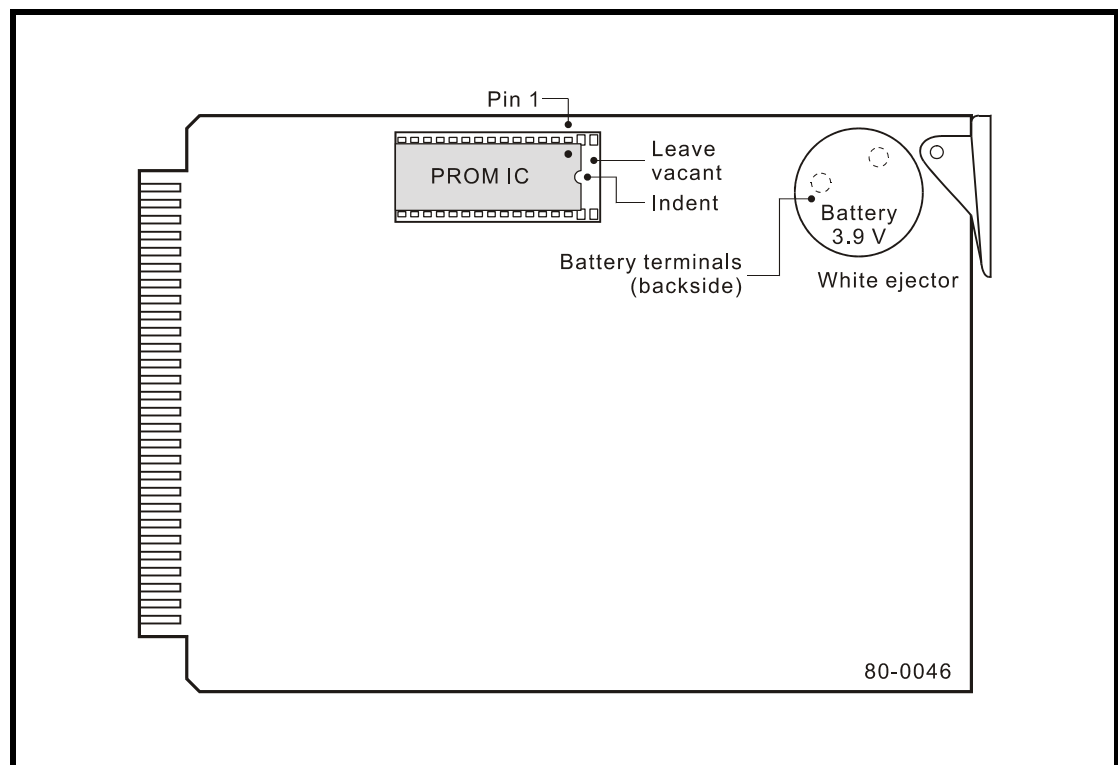

Figure 7 - PROM IC, 80-0046 CPU PCB
3. Using a small, flat-head screwdriver remove the existing PROM IC from its socket. Carefully review Figure 7 on page 59 for the location of the correct IC.
Tip MICRO-AIDE recommends that the battery be checked once a year. The battery can be found on the 80-0046 CPU board. The location of the battery is illustrated in Figure 7 on page 59. The battery terminals can be accessed on the backside of the PCB. The battery voltage should measure at least 2.5V. If the battery voltage is less than 2.5V contact MICRO-AIDE customer service for instructions on how to proceed.